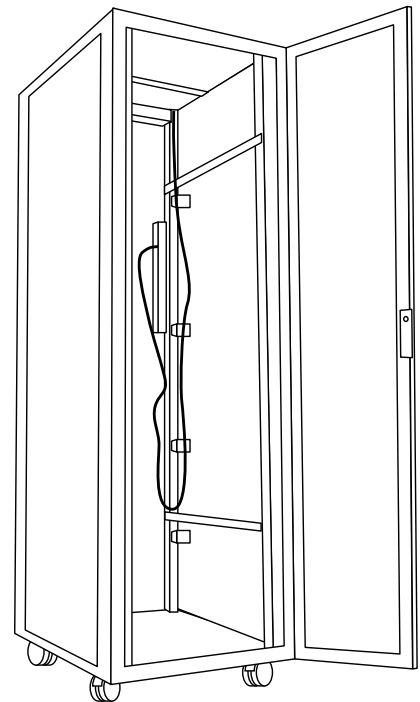

FIGURE 2.11
A rack-mount server chassis must be mounted in an equipment rack designed for rack-mounted hardware. Most server vendors that sell servers in a rack-mount chassis also sell the server rack. Server racks generally come in several sizes (heights). Server rack size is measured in rack units (U). A standard rack unit is 1.75 inches. A new network server will either be installed in an existing server rack or a new server rack will be purchased for the new network server. Server racks generally have both front and rear doors and side panels to form a completely enclosed unit. The doors and side panels help form both a secure environment and also are designed to aid in cooling the equipment in the rack by controlling airflow patterns. In most cases, multiple server racks can be joined together to form an installation space for a large number of servers. Figure 2.11 shows an example of a server rack.